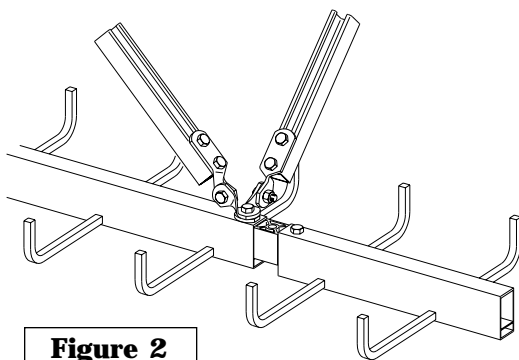

Figure 2
- 3). Both adjustable hinges may be attached to the same bolt as shown in Figure 2 below. (Rod removed for clarity.)